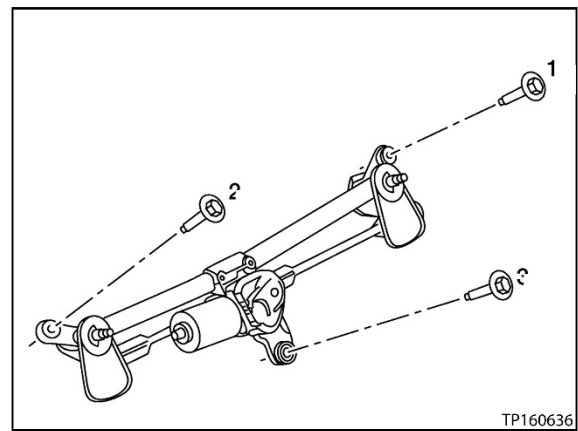

Figure 11
- g. Disconnect the electrical connector, remove the three (3) bolts, and then remove the wiper drive assembly (see Figure 11).